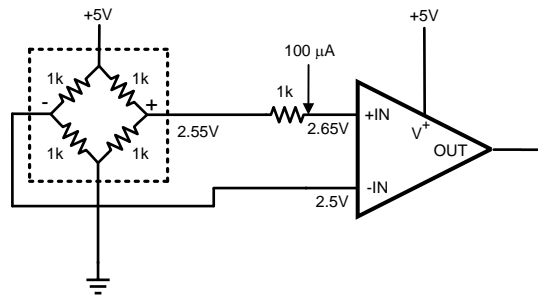
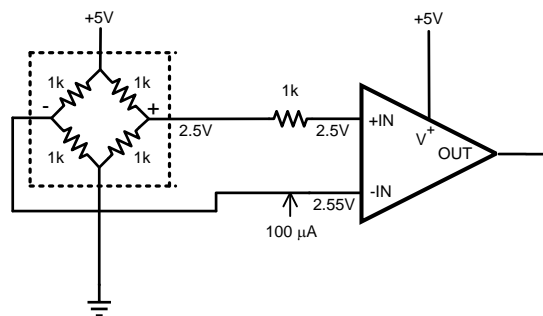

Figure 59. Degraded Input Line, Step 1
Figure 60. Degraded Input Line, Step 2
Figure 59 shows an example of a degraded connection between the bridge and the +IN pin of the LMP8358. This fault is shown by the 1 kΩ resistor placed between the bridge and the LMP8358. To detect this fault use the 1/50 feature by setting MUX[1:0] to 10b to test the +IN pin, POL to 0b, and G[2:0] to 010b for a gain of 50. This will give an overall gain of 1. Set CUR[2:0] = 101b to inject a 100 μA current and read the output voltage (5082x). Next set MUX[1:0] to 11b and PIN to 1b to test the -IN pin as shown in Figure 60 and read the output (58C2x). If the voltages of these two measurements are different a degraded input fault exists.
* The values shown for a degraded input line will vary depending on the resistance in the line. This table uses the value in Figure 59 and Figure 60, 1k Ω .